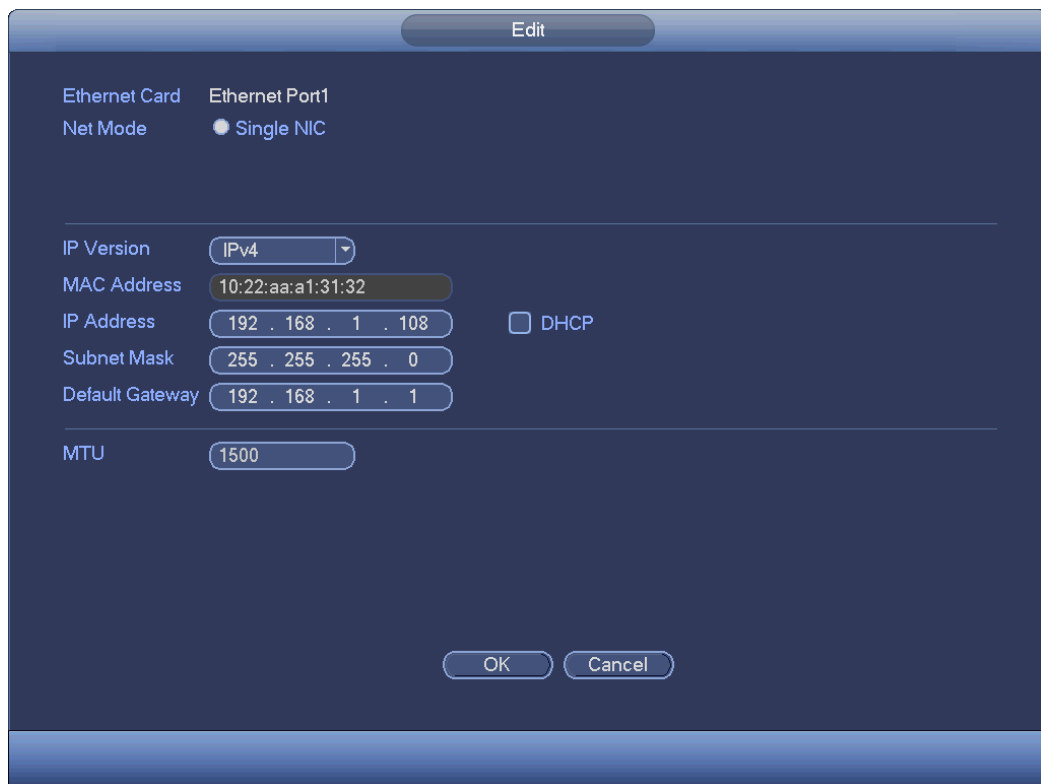

Figure 4-17
Step 2 Click , device display edit interface. See Figure 4-17.